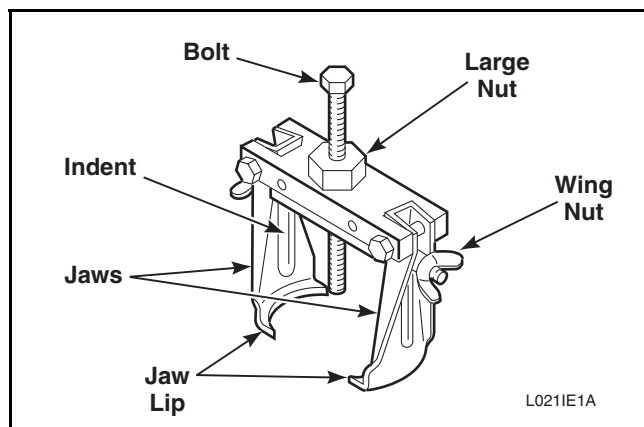

Figure 13
- Back bolt out of 294P4 Drive Bell Tool approximately three quarters of the way. Refer to *Figure 13*.